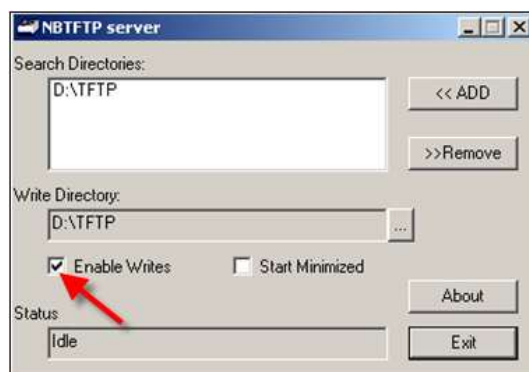

Figure 7-1: NBTFTP Server
4. Enable TFTP Server to write incoming files to its local drive (see Figure 7-1).